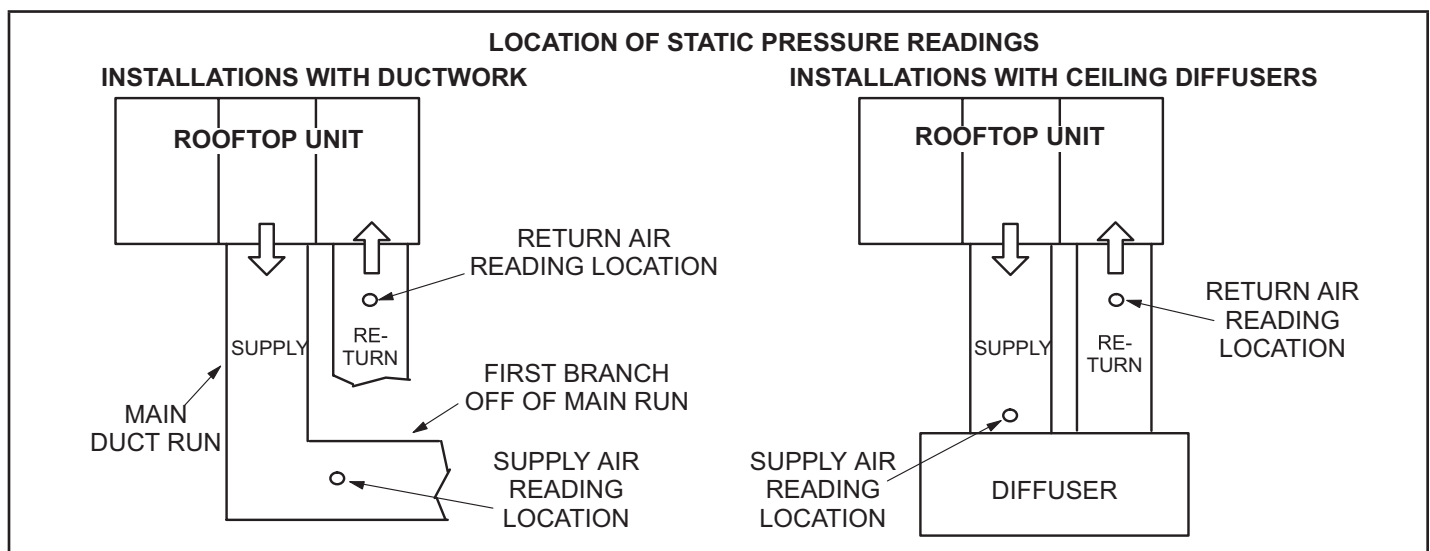

FIGURE 26
- 2 - With all access panels in place, measure static pressure external to unit (from supply to return). Blower performance data is based on static pressure readings taken in locations shown in FIGURE 26.